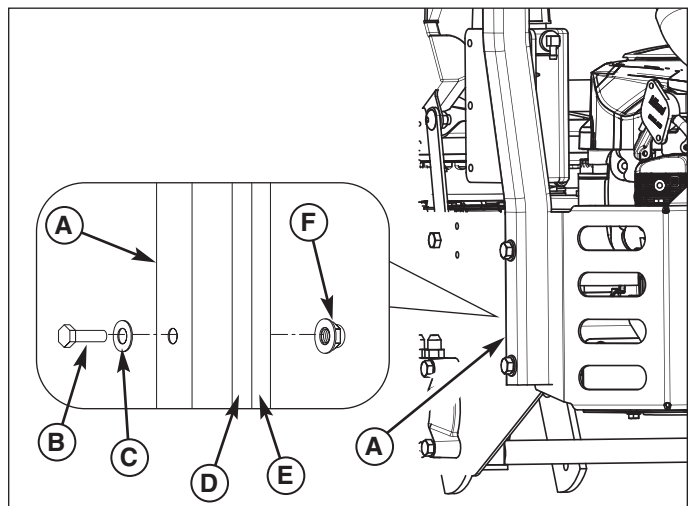
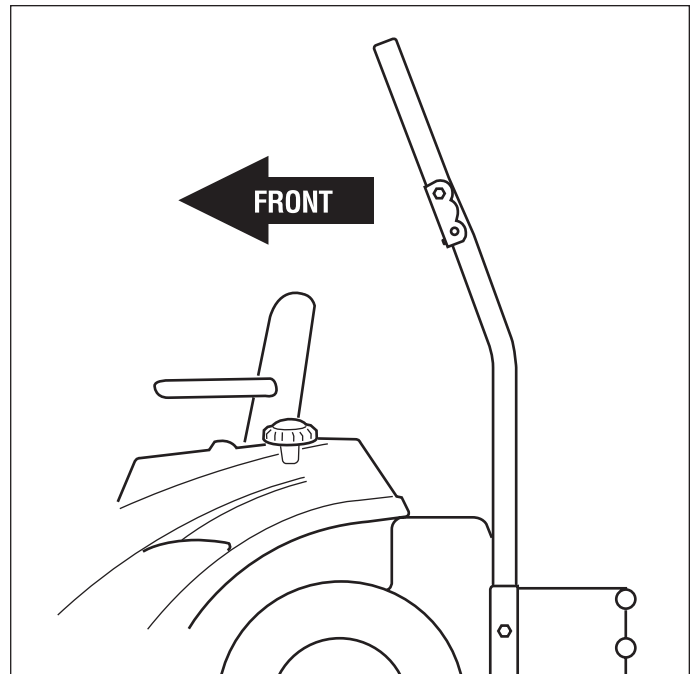

Figure 8. Upright Tube Placement (Left Side Shown)
Figure 9. Roll Bar Orientation
2. Place the roll bar upright tube onto the outside of the rear bumper (A, Figure 8). Refer to Figure 9 for the correct roll bar orientation.
3. Refer to the insert in Figure 8. Loosely install a bolt with a flat washer through the both holes of the upright tube, rear bumper, and the frame from the outside of the machine. Loosely install a nylock flange nut on the bolt.